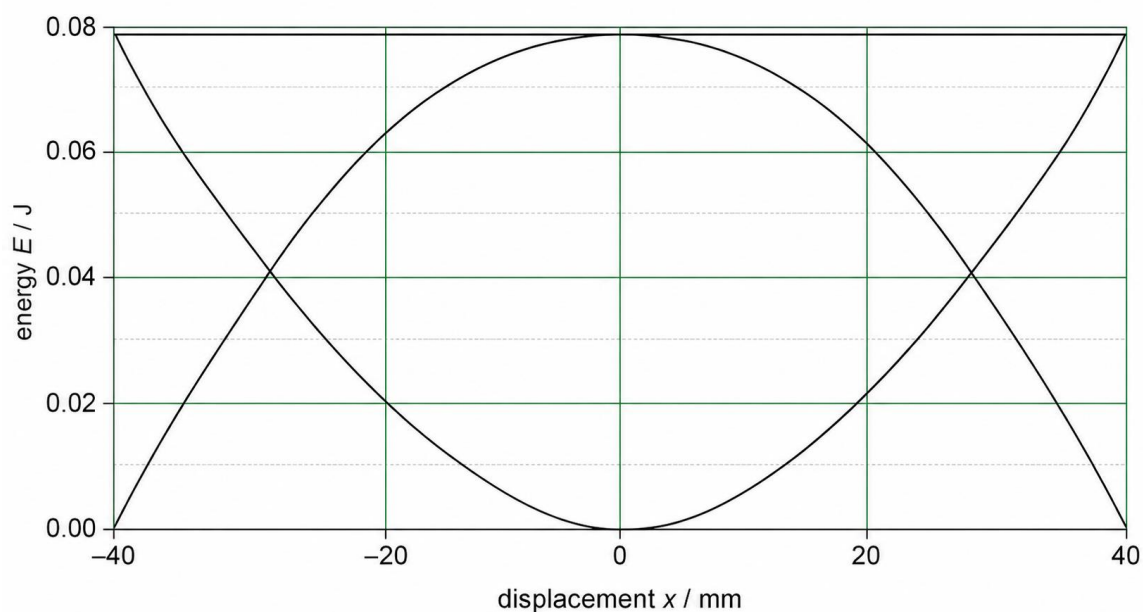

Figure 3: energy against displacement for the free calibration run
9. Figure 3 shows three energy-displacement curves for the free calibration run. (a) Label the total mechanical energy, elastic potential energy and kinetic energy curves. (b) Estimate the magnitude of the displacement where the kinetic and elastic potential energies are equal. (c) Describe the energy transfers as the piston moves from the negative extreme, through equilibrium, to the positive extreme. **[5 marks]**